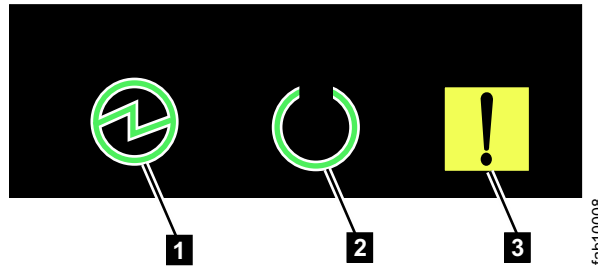

Figure 20. Node canister LEDs
5. Check the LEDs on each node canister in the control enclosure, as displayed in Figure 20 on page 101.